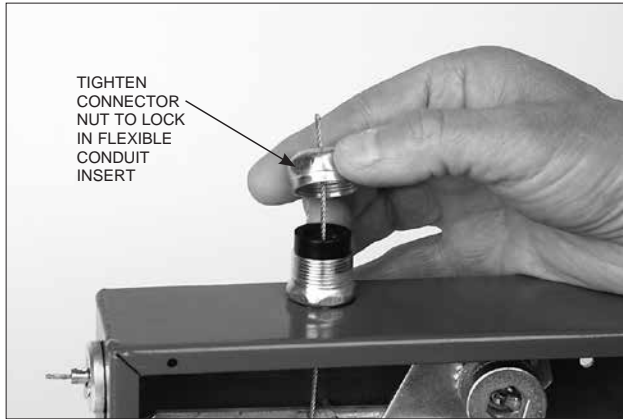

FIGURE 4-43
5. Tighten the nut to the connector body, locking the flexible conduit insert in place. See Figure 4-43.